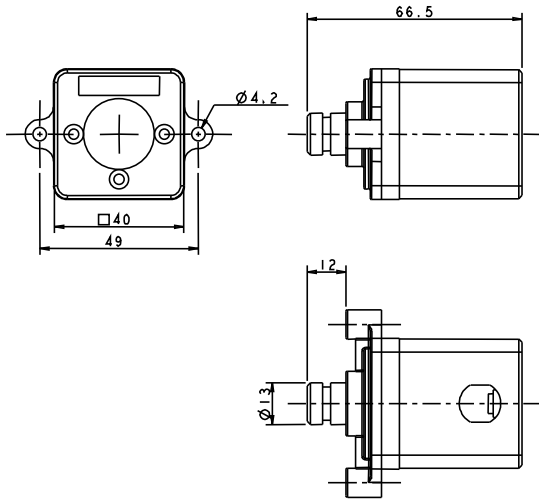
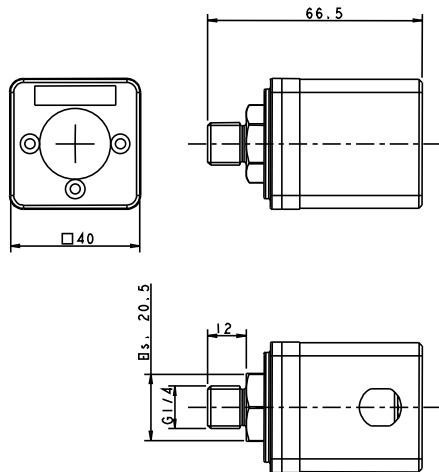

Fig. 2 Bracket fixing system
Fig. 3 G 1/4" threaded male fixing system
- male clutch with G 1/4" thread (Fig.3);
- bracket with sealing O-ring and two M4 screws (Fig.2) to fit pressure switches to BRAHMA valves of the EG... series.
Fig.2 and Fig.3 show the overall dimensions.